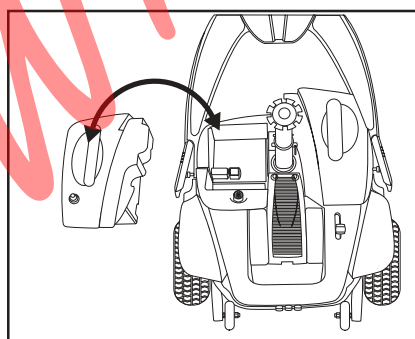

Figure 16. Battery Pack Removal/Installation
4. Remove the left then the right battery pack by lifting them straight up and away from the scooter. See figure 16.